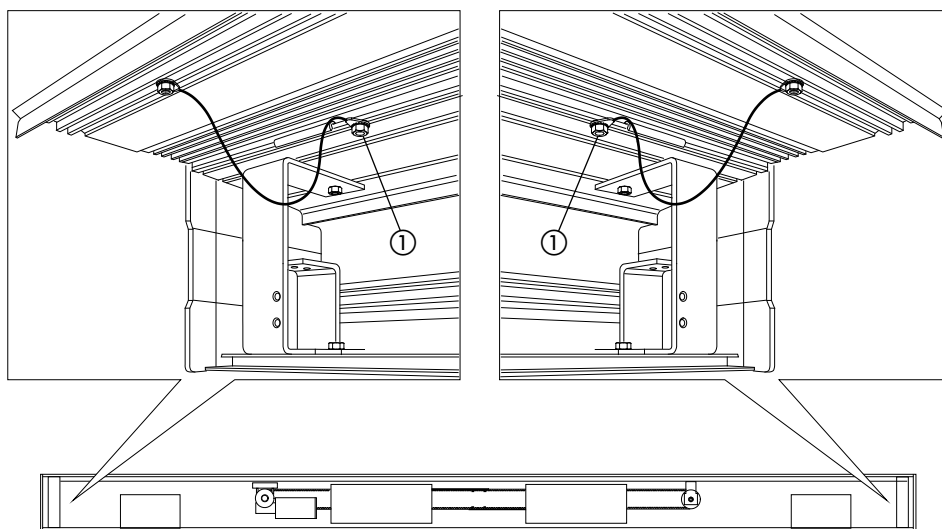

fig. 5
Remove the parachute cables (when present), from the header side, unscrewing the locknuts as shown in fig. 5 ref. ①.